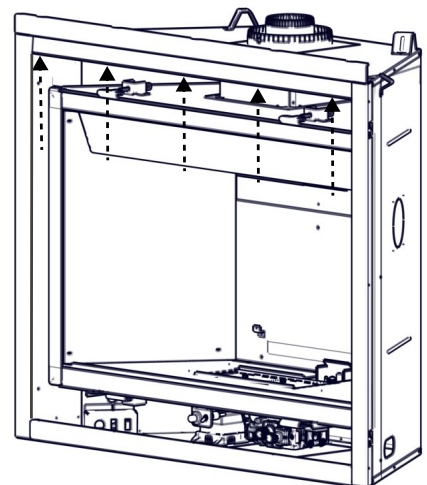

FIG. 4
- C. Reinstall the securing screws from Step A (FIG 4).